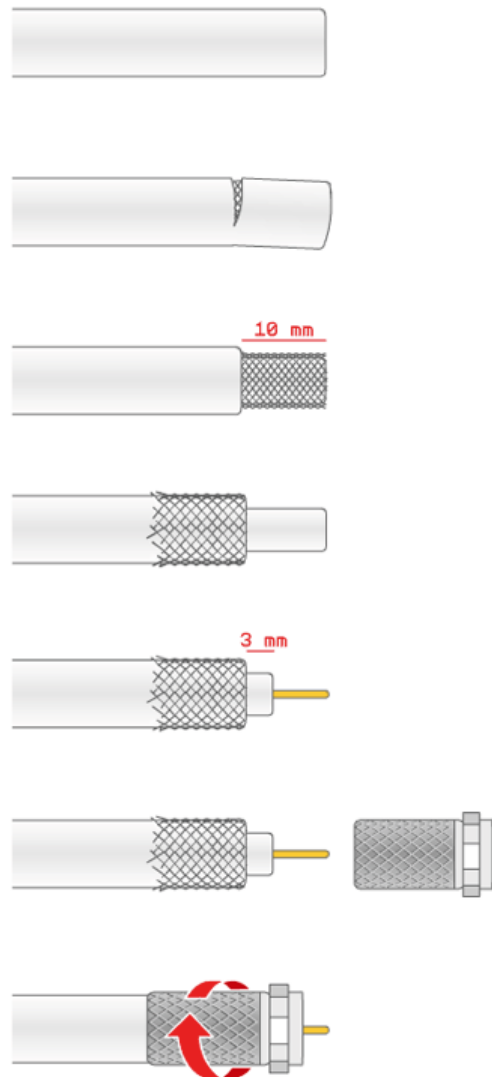

Fig. 12
8. Insulate with appropriate sealants the holes drilled in order to prevent the passage of water. Should it be necessary to shorten the cable, please refer to the instructions given in Fig. 12.